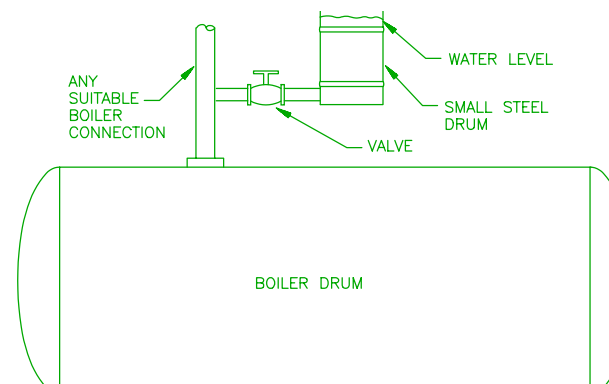

Figure 3.11A: WET LAY-UP STATIC HEAD DRUM
2. After filling, the boiler must be closed or blanked tightly. The power supply to the boiler must be cut off. Vent all air from the top of the boiler to allow complete fill with the required solution. Nitrogen gas at 5 psig may be introduced through a suitable opening to prevent air in-leakage during the lay-up period. An alternative to the nitrogen gas (see safety precautions under dry lay-up) is to install a 55 gallon drum or auxiliary vessel as shown in Figure 3.11A. This is to be fitted with a cover and filled with properly treated water. This vessel or drum should be connected to an available opening in the top of the vessel. Its purpose is to create a hydrostatic head and to allow a ready visual check of water level loss or in-leakage during the lay-up period.
If the tests indicate chemical concentration has decreased, chemical may be introduced to the boiler by putting it in the drum shown in Fig. 3.11A. Then lower the boiler water level to introduced it into the boiler. Then operate the boiler at low fire to circulate the water and mix the